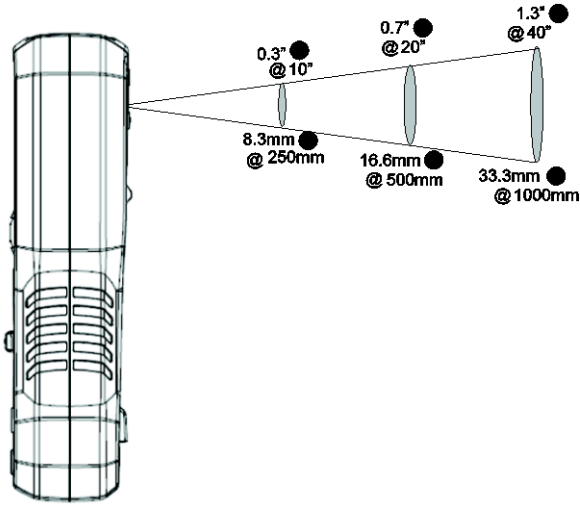

Fig. 7-2 Distance-to-Spot ratio 30:1
- 7. The Distance to Spot ratio for the imager is 30:1 meaning that the measurement spot is 30 times smaller than the distance the meter is from the spot (at a distance of 30", the meter 'sees' a target spot of 1"). See Fig. 7-2.